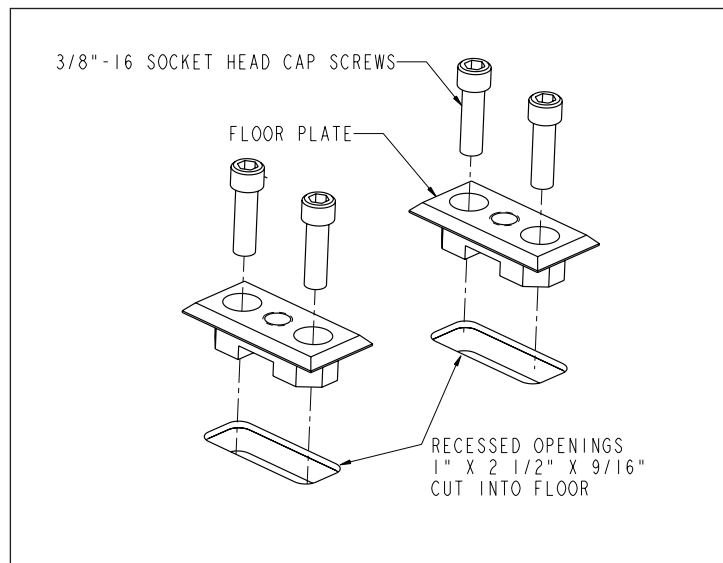
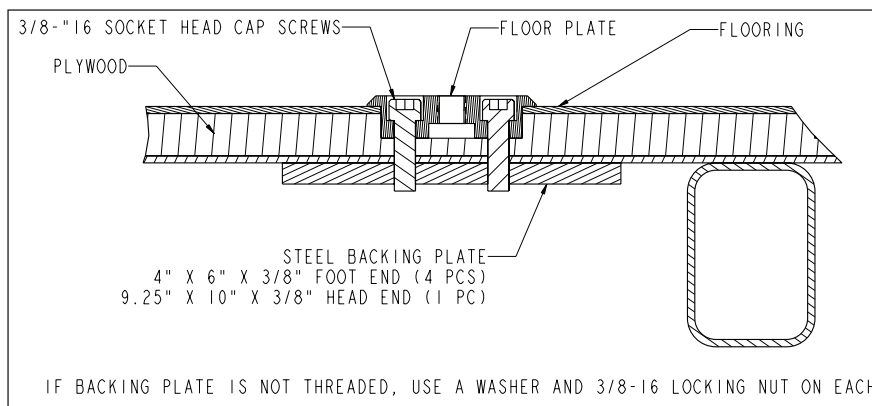

Figure 2: Floor Plate Installation
Figure 3: Floor Plate Installation
3. Cut 1" x 2-1/2" x 9/16" deep recessed openings into the floor centered over the plate locating points as shown in Figure 2.
4. Using two 3/8" diameter socket head cap screws, preferably grade 8, anchor each floor plate into the recessed openings with the counter-bored holes facing up as shown in Figure 2. Steel backing plates (or equivalent) are required for added support as shown in Figure 3 (steel backing plates not supplied).